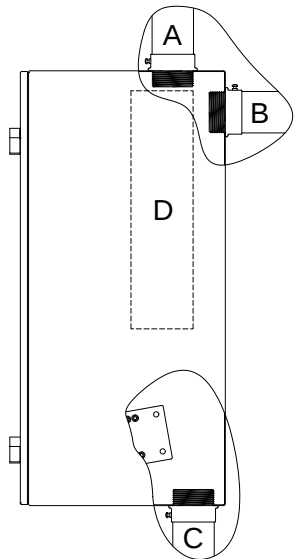

Figure 1
3. The Powertron® Tap Box provides a variety of options when installing conduit to its enclosure. Use *Figure 1* and *Chart 1* for recommended conduit entry points and measurements when installing the Powertron® Tap Box. Extra care should be taken when connecting through the back panel so that the conduit hub does not interfere with the mounting of the box flush to wall.